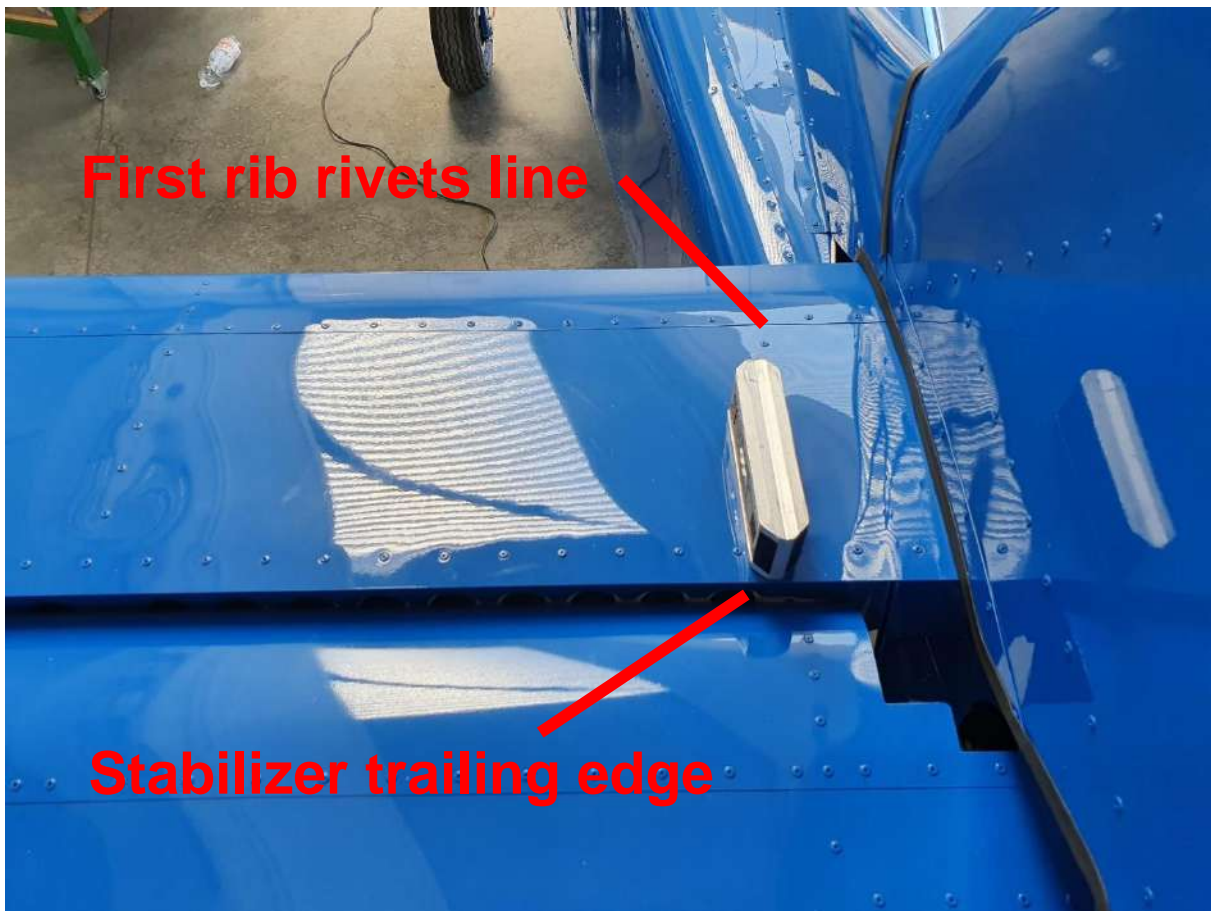

Figure 42: Digital spirit level position on Stabilizer for Zeroing
- Zeroing a digital level bubble (with  $0.1^\circ$  of resolution) in the upper skin of the Stabilizer in the position shown in *Figure 42*;